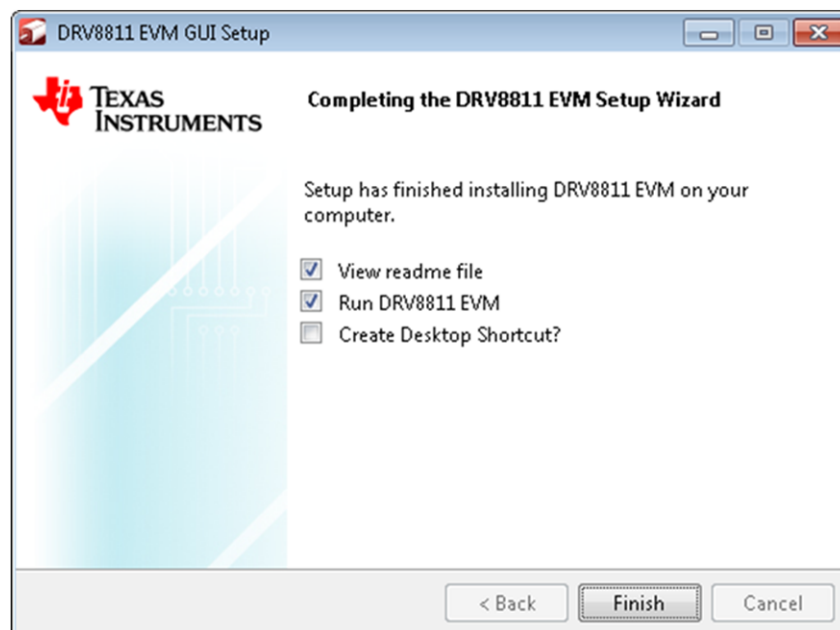

Figure 19. Installation Complete
19. Figure 19 appears denoting the completion of DRV8811 EVM GUI Installation. Click **Finish**.